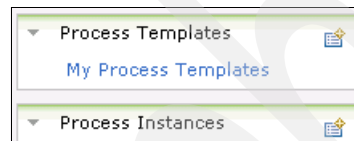

Figure 5-90 Selecting My Process Templates
2. In the Business Process Choreographer Explorer (Figure 5-90), select **Process Templates** → **My Process Templates**.